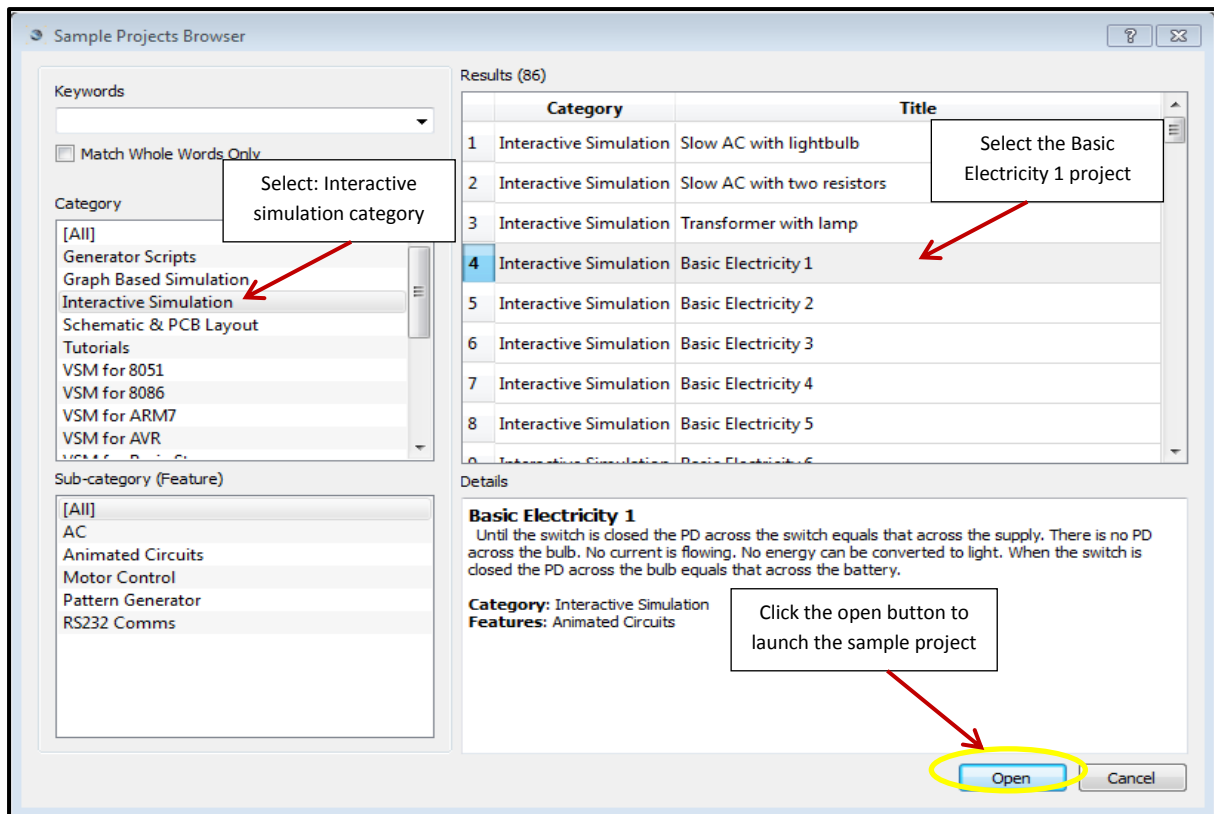

Figure 5-1: Procedure for opening the Interactive simulation - Basic Electricity 1 sample project
2. Click on the File menu and then select "**Open Sample Project**", or alternatively click on the "**Open Sample**" button on the Proteus Home Screen (). The Sample Projects Browser window should open (see Figure 5-1).